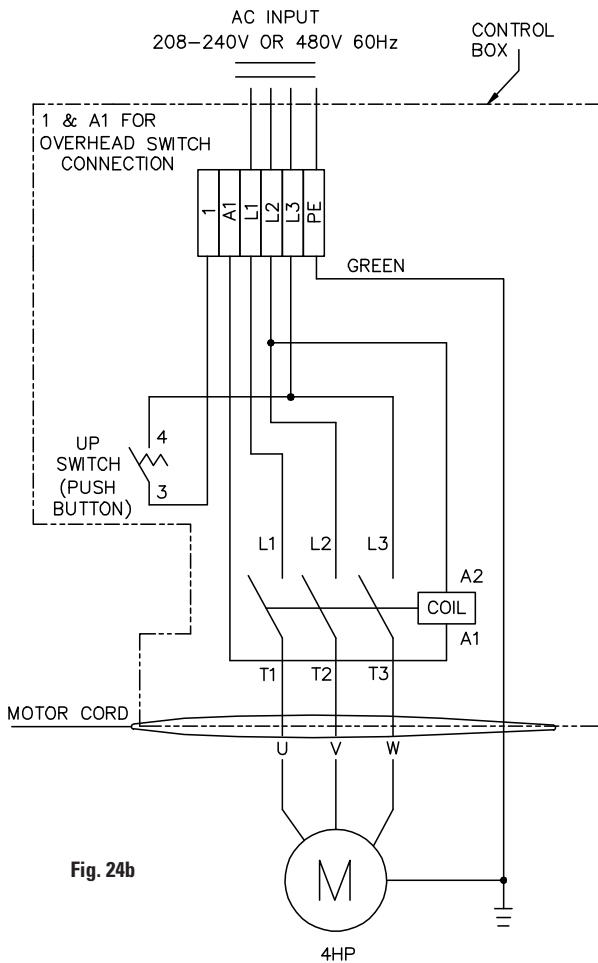

Fig. 24b
16. Electrical: Have a certified electrician run appropriate power supply to motor, Fig. 23 , Fig. 24, & Fig. 24b. Size wire for 20 amp circuit. See Motor Operating Data Table.